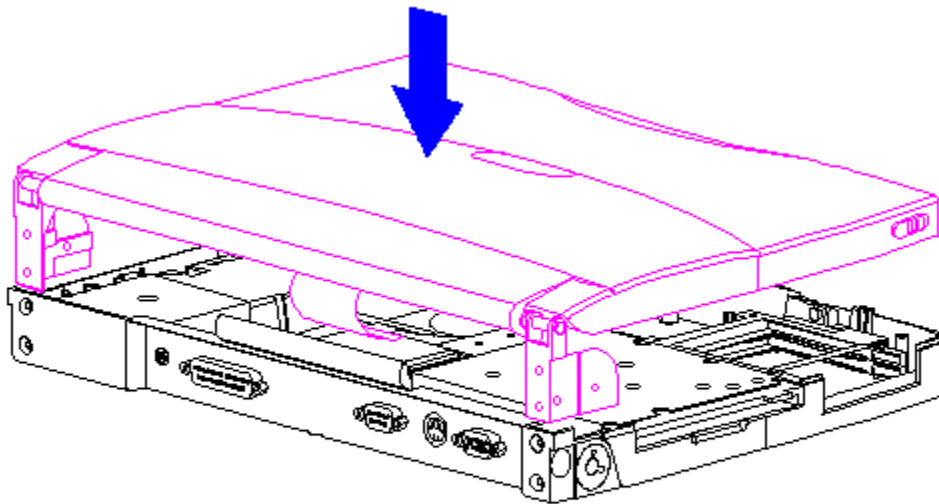

Figure 5-118. Replacing the Display Assembly
27. Align the clutches with the system unit module, ensuring that the display ground cable and the display cable are positioned on top of the system unit module (Figure 5-118).